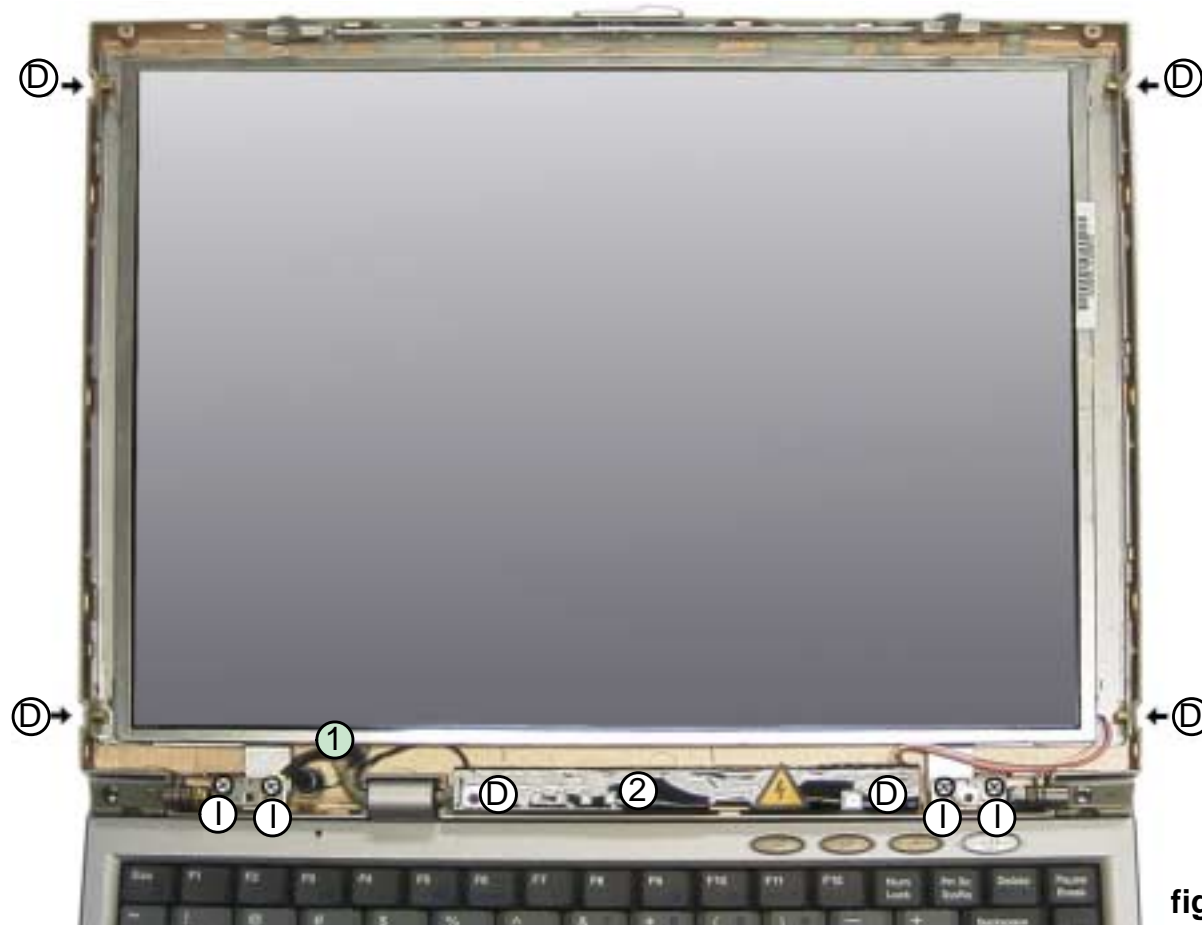

figure 3-26
1. Remove the bracket (D) screws on the side of the LCD panel (figure 3-26).
3. Remove screws (D) holding securing the inverter board (figure 3-26).